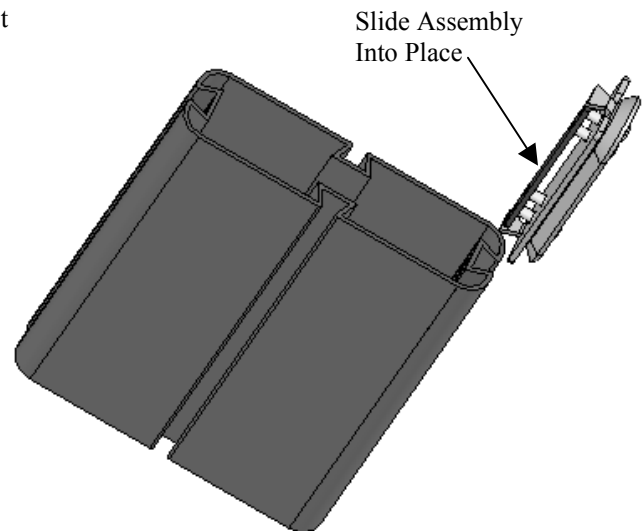

Figure 3
2. Slide the locking plate, with mounting bracket attached, into panel slot to desired height (see Figure 3).